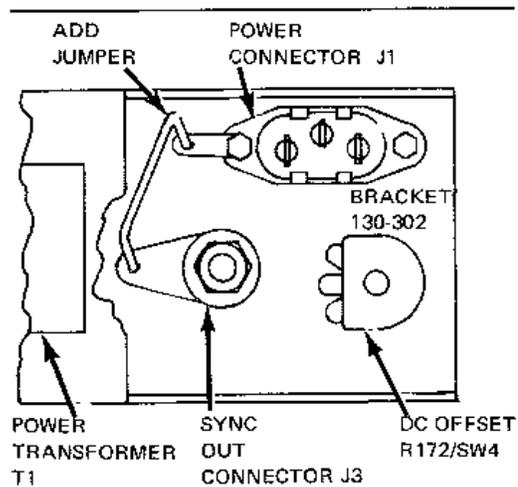

Figure 2-2. Common Ground Connection Diagram
3. Solder a jumper wire between the ground lugs (green wires) of the SYNC OUT connector and the power connector (Figure 2-2).